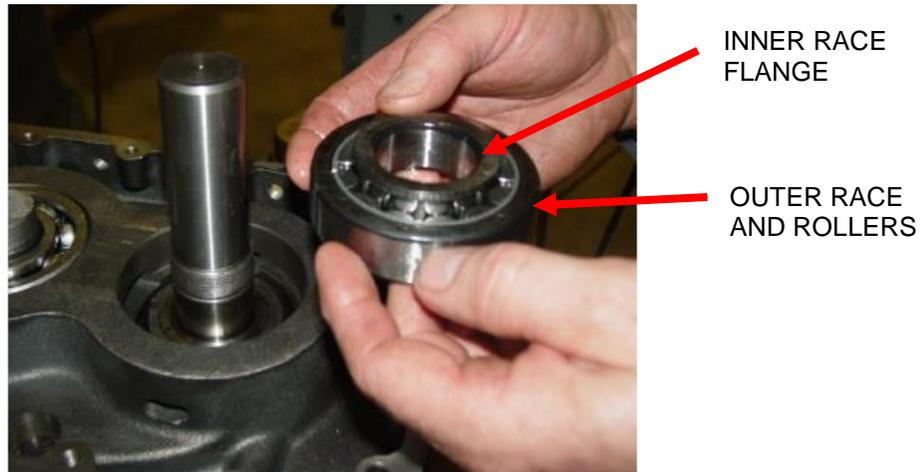

FIGURE 8-5 – INSTALL ROLLER BEARING
30. Repeat step 29 for the drive rotor bearing with the exception that this bearing is a roller bearing (35). One side of the inner race of this bearing has a flange and one side does not have a flange. The bearing should be installed so that the end of the inner race that does not have a flange is in contact with the ring carrier. In this step the bottom of the drive rotor shaft must be in contact with the bed of the press and the bottom of idler shaft must not be in contact with the bed of the press. The inner race and outer race (and rollers) must be engaged with each other while the bearing is being pressed onto the rotor shaft. See Figure 8-5.
38. Place 2 spacers (55) on both shafts.